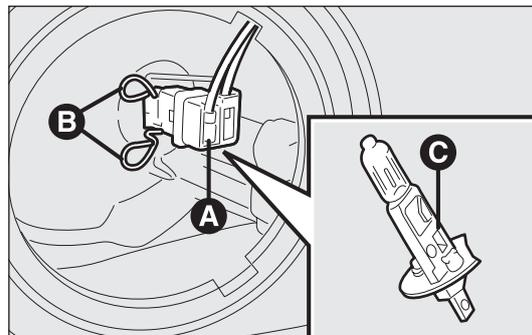

fig. 182
- disconnect the electrical connector A-fig. 182;